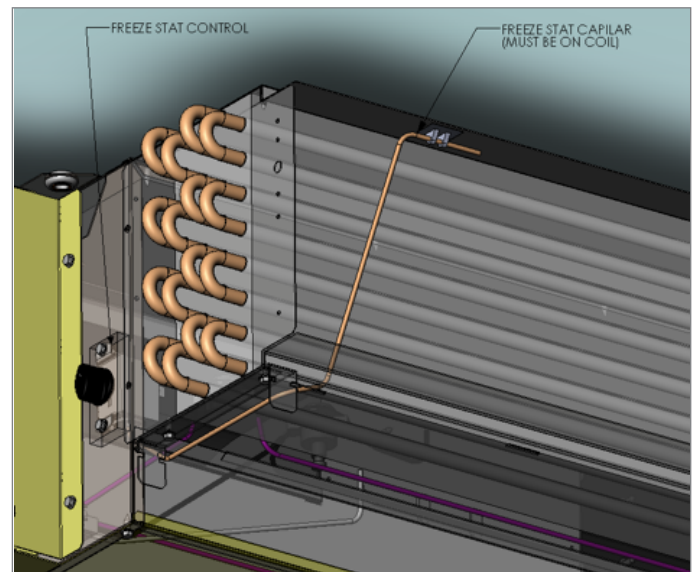

Figure 14
- Position the sensing element horizontally across the face of the coil, and secure the sensing element with mount tape and wire tie. (See Figure 14.)